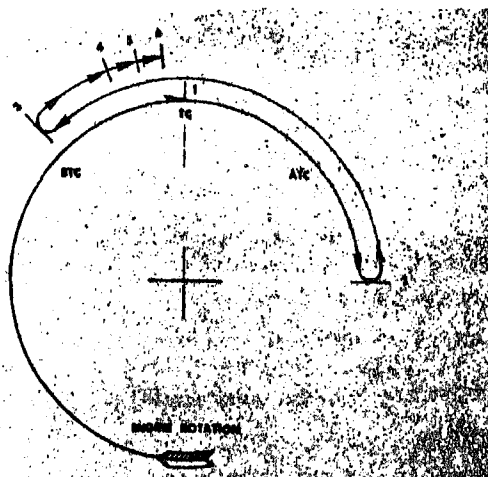

Fig. 14-1-39. Injection timing procedure
**Note:** Refer to Fig. 14-1-39 and the condensed instructions following this figure while performing the following steps.
1. Bar engine to top center firing position; set indicator above piston at "O", Fig. 14-1-39.